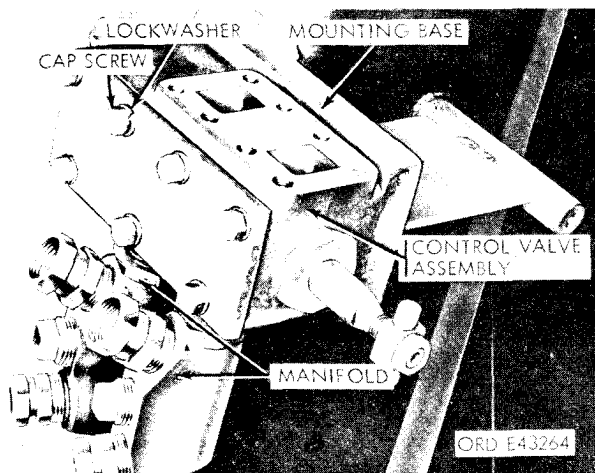
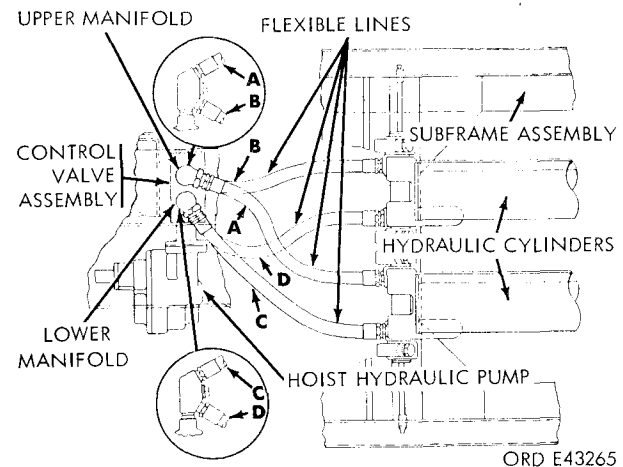

Figure 2-223. Removing control valve assembly.
Figure 2-224. Hoist assembly flexible lines.
(4) Disconnect the four hydraulic flexible lines from the manifolds (fig. 2-223) installed in the control valve outlet ports.
(5) Remove the eight cap screws (fig. 2-223) and lockwashers securing the control valve assembly to the mounting base. Remove the valve from the base.
(1) Position the control valve assembly (fig. 2-223) on the mounting base at the rear of the reservoir, and secure it with eight cap screws and lockwashers.
(2) Connect the four hydraulic flexible lines to the manifolds (fig. 2-223) installed in the control valve ports. Refer to figure 2-224 when connecting the lines.
##### a. Removal (fig. 2-224).
##### b. Installation (fig. 2-224).